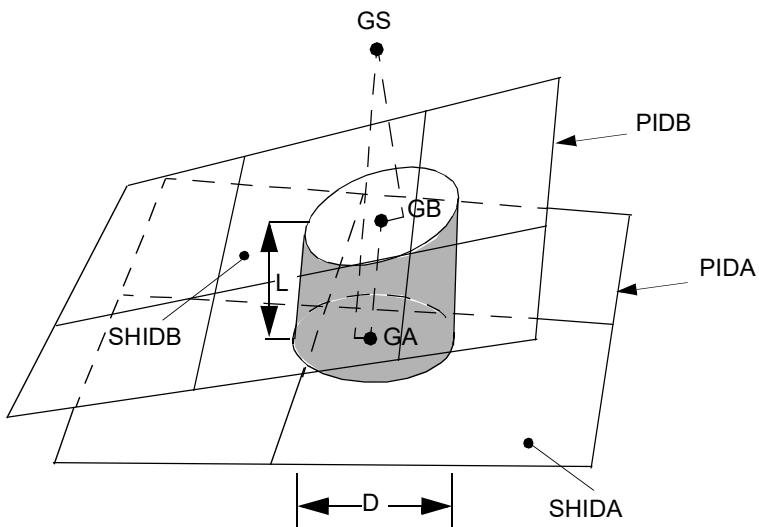

Figure 9-83 Patch to Patch Connection Defined with the Formats PARTPAT or ELPAT
1. CWELD defines a flexible connection between two surface patches, between a point and a surface patch, or between two shell vertex grid points. See Figure 9-83 through Figure 9-87.
4. The format "PARTPAT" defines a connection of two shell element patches A and B with PSHELL property identification numbers PIDA and PIDB, respectively. The two property identification numbers must be different, see Figure 9-83. The number of connected elements depends on the location of the piercing points GA, GB and the size of the diameter D. The diameter D is defined on the PWELD property entry. For this option, shell element patches A and B are allowed to share a common grid.
6. The format "ELPAT" defines a connection of two shell element patches A and B with shell element identification numbers SHIDA and SHIDB, see Figure 9-83. The connectivity is similar to the format "PARTPAT". The number of connected elements depends on the location of the piercing points GA, GB and the size of the diameter D. For this option, shell element patches A and B are allowed to share a common grid.